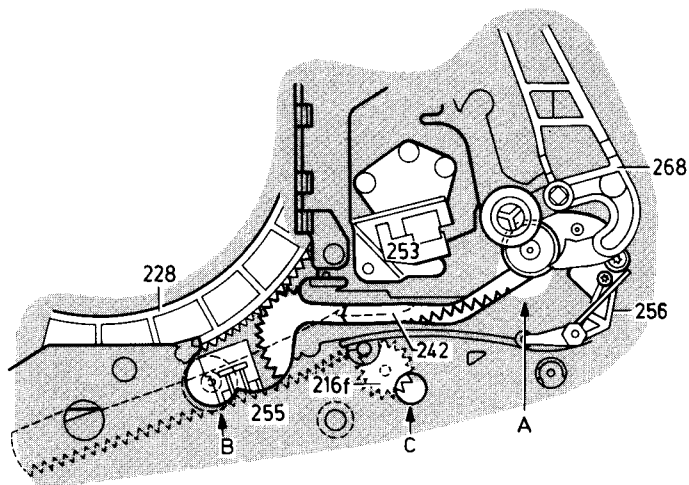

Fig. 1-13
- Push the gearwheel pos. 216-f 'C' (Fig. 1-13) through the hole in the top plate down and hold it. (the pressure roller is now unlocked by the gearwheel).
- Demount spring pos. 269 from pressure lever pos. 268 and place in control lever pos. 272.
- Mount drive belt pos. 271.
- The pressure roller is in position B (Fig. 1-13) with play and the swivel wheel can be moved in the end position with play otherwise correction is needed according chapter 1-12.